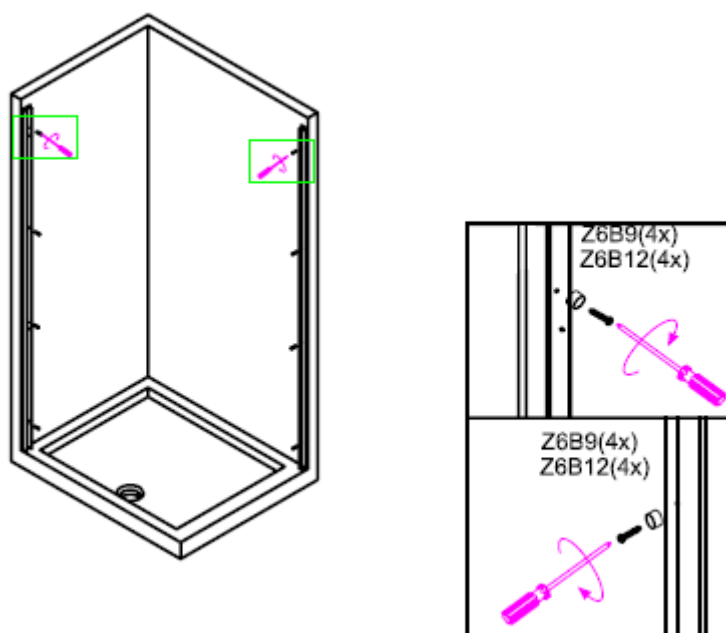

Figure 2
2. Fix the wall profile(Z6B1) and (Z6B16) to the wall by using screw(Z6B9) with caps,as showed in figure 2.